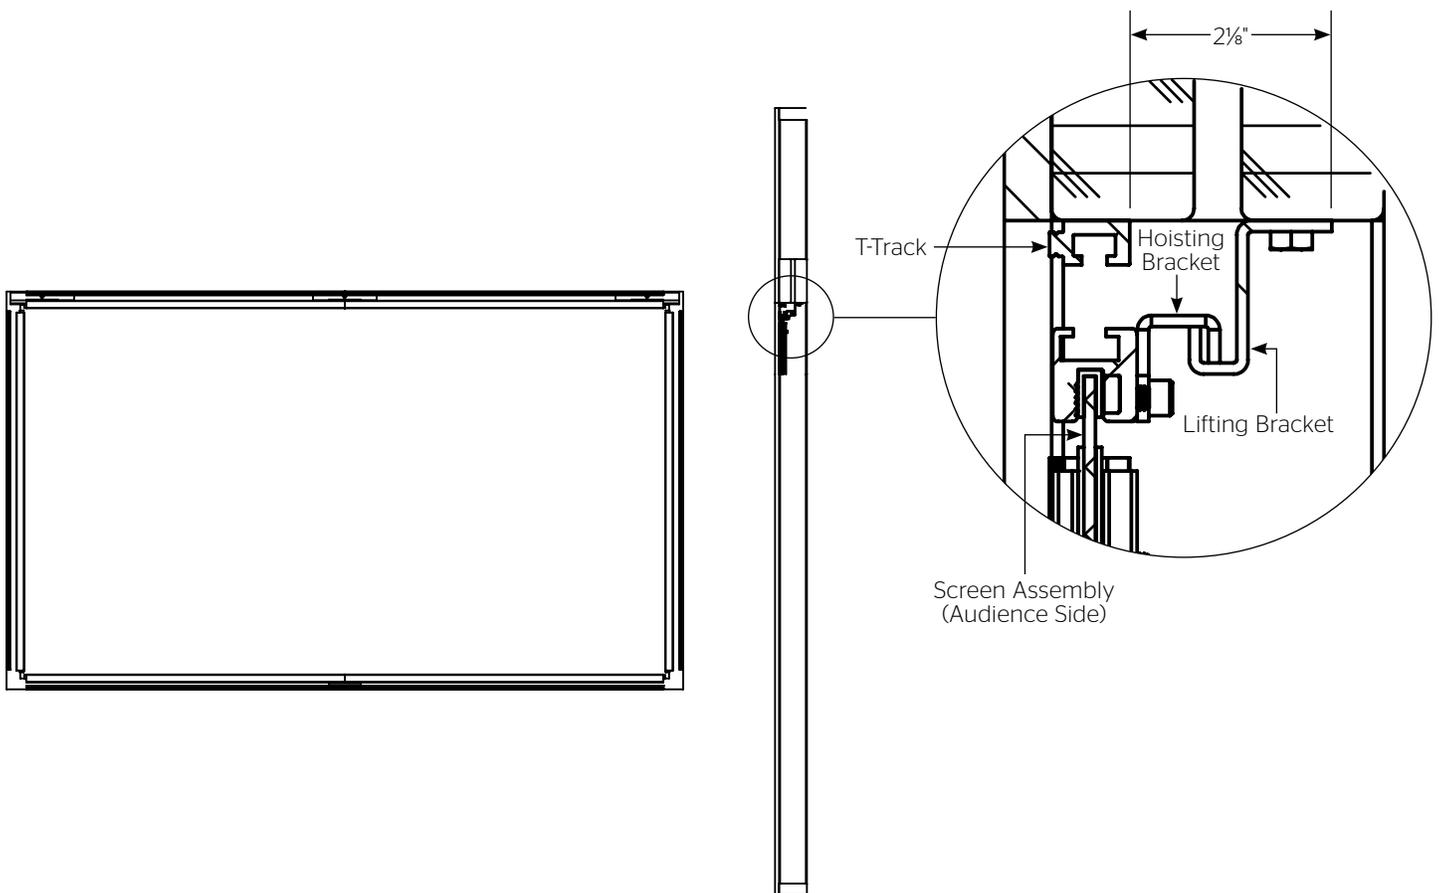

Figure 8
21. Raise the screen assembly into the wall opening. On the projector side, one person will remain holding all three ropes (N) without slack, guiding the screen into place. On the audience side, two people will lift the screen vertically, one on the left and one on the right side. These three people (one rope control and two lifters) will coordinate together to lift the screen into place. The fourth person should be on a ladder on the projector side helping the rope control and lifters guide the screen assembly into place until all three hoisting and lifting brackets attach to each other at the top of the wall opening (See Figure 8).
22. Once the screen is hanging on the hoisting and lifting brackets, carefully remove the seam (J) and corner (K) brackets along with the 3/8" screws (L) and nuts (M).